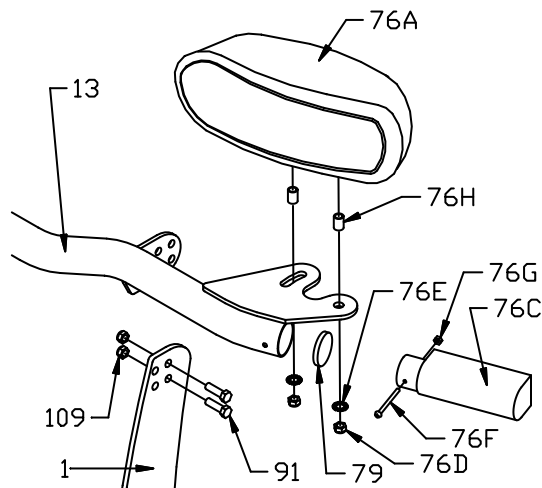

Figure 11. Headlight Mounting Assembly G10115
22. Bolt Driver Side Headlight (76A) on to Light Bar (13) using two bushings (76H), 1/2" Nuts (76D) and 1/2" Star Washers (76E) as shown in Figure 11.